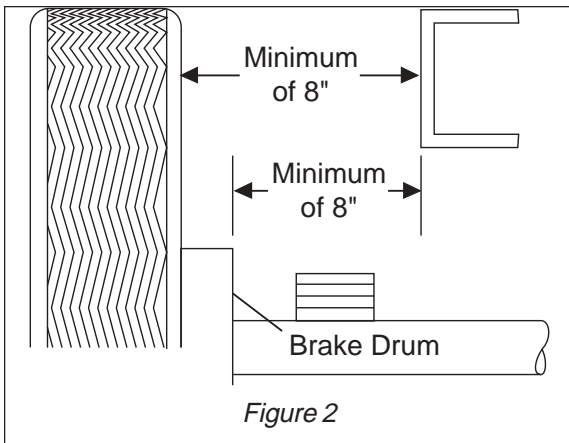

Figure 2
**1. Note: Before proceeding with installation, measure opening from frame rail to brake drum or the tire, which ever is closest to frame. The measurement must be a minimum of 6 inches (Figure 2). If spacing is OK, remove rear wheels and support frame with safety stands.**